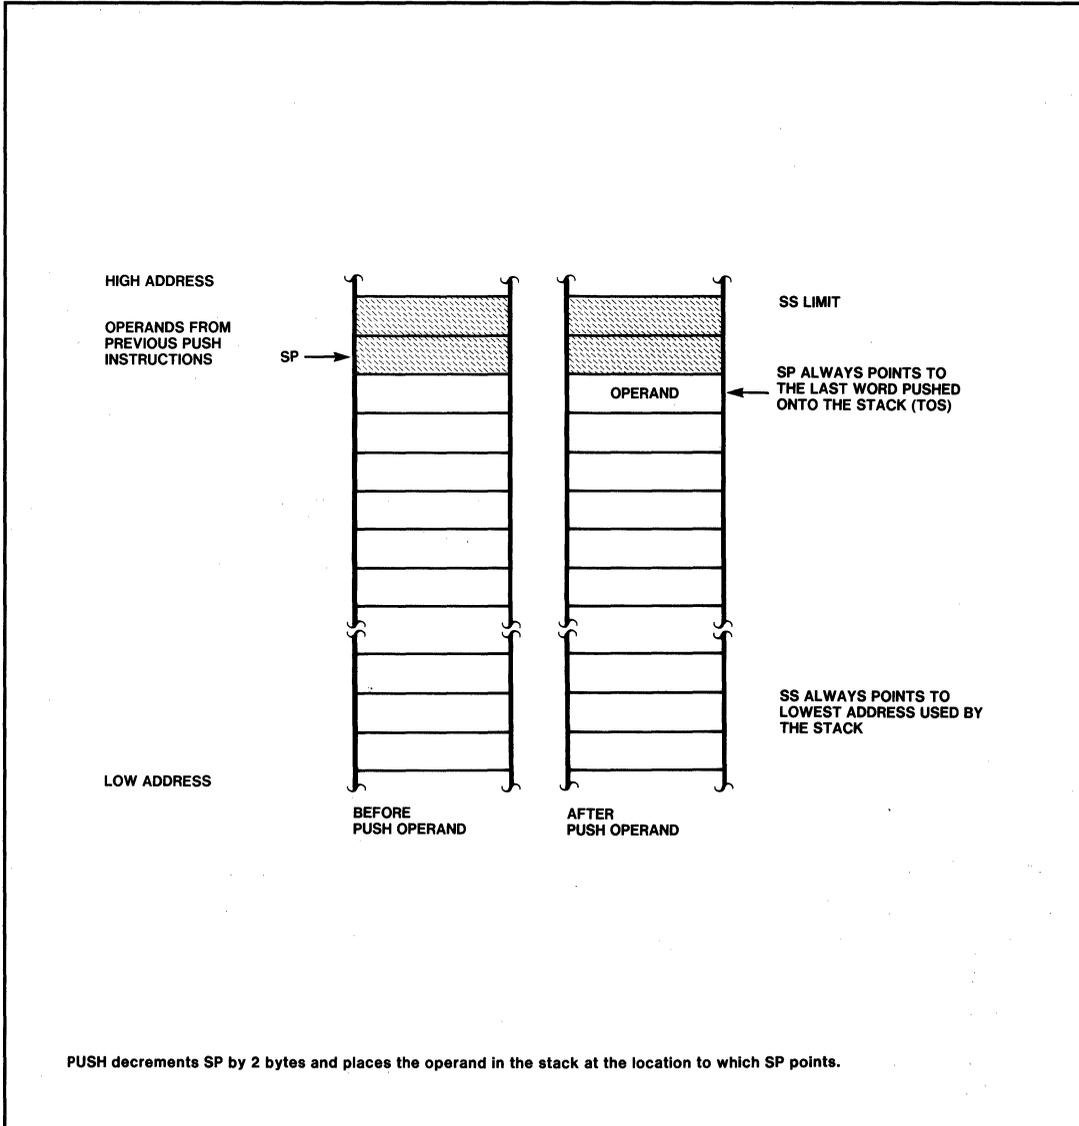

Figure 3-1. PUSH
*PUSH (Push)* decrements the stack pointer (SP) by two and then transfers a word from the source operand to the top of stack indicated by SP. See figure 3-1. *PUSH* is